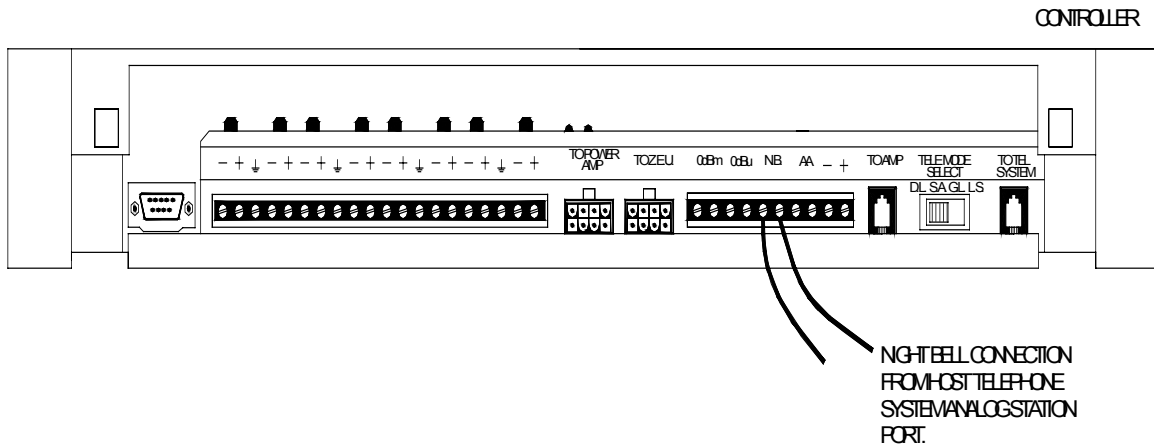

Figure 12. Night Bell Connection to Controller
7. Connect two wires from the night bell analog station port on the host telephone system to Controller night bell (N.B.) input. See Figure 12. (Analog station port needs to provide 90 VAC ring voltage)